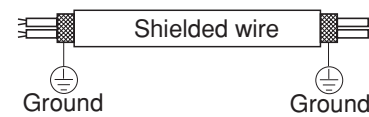

Fig. 5-4
- (5) Use shielded wires for inter-unit control wiring (c) and ground the shield on both sides, otherwise misoperation from noise may occur. (Fig. 5-4) Connect wiring as shown in Section “5-3. Wiring System Diagram.”